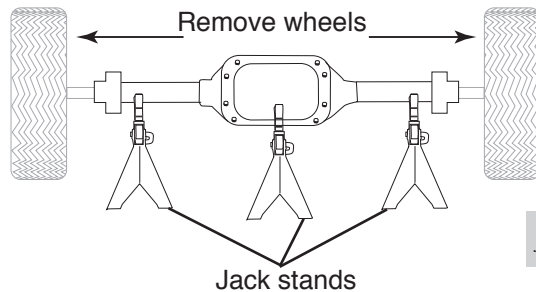

fig. 2
1. Jack up the rear of the vehicle using a jack or a hoist. Support the rear axle with jack stands and remove the rear wheels (Fig. 2).